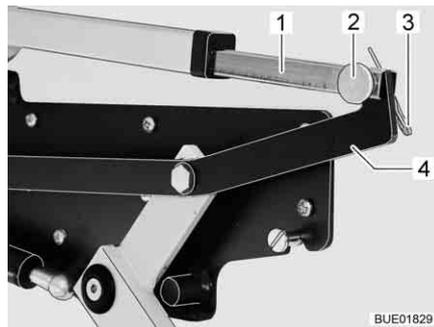

Fig. 145 Drive for the pull-down bed
- Release the connection between the push rod (Fig. 145,1) and lever (Fig. 145,4). To do this, pull out the splint (Fig. 145,3) and pin (Fig. 145,2).